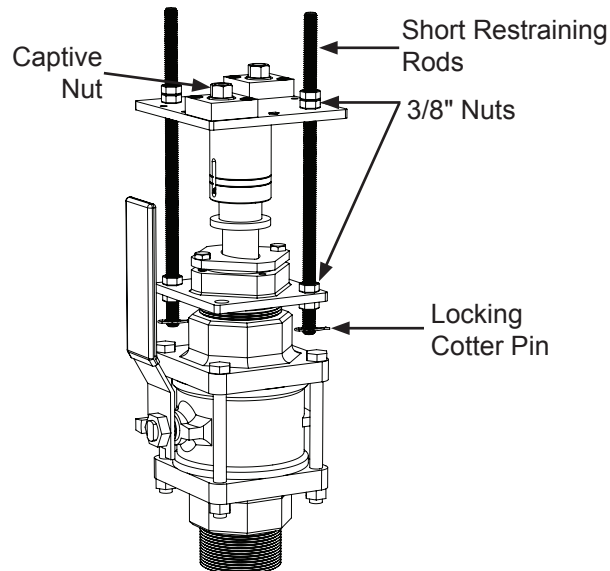

Figure 14: Short Restraining Rods Installation
- 4.11.1. Secure the short restraining rods to the bottom plate with two 3/8" nuts and a locking cotter pin per rod. Install one of the 3/8" nuts above the bottom plate, and one below the bottom plate. See Figure 14.